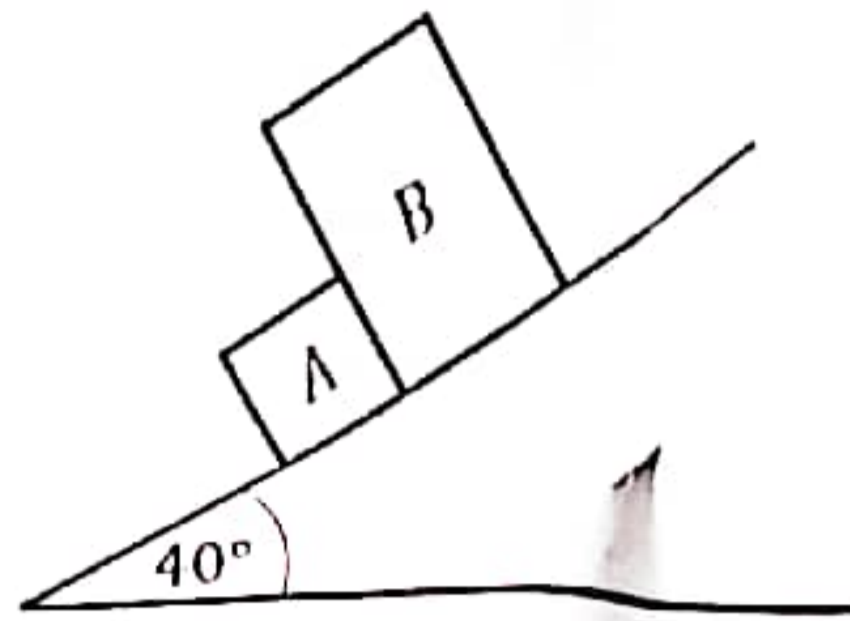

Fig Q2
2. Blocks A and B are initially at rest on a plane inclined 40° above the horizontal as shown in Fig Q2.